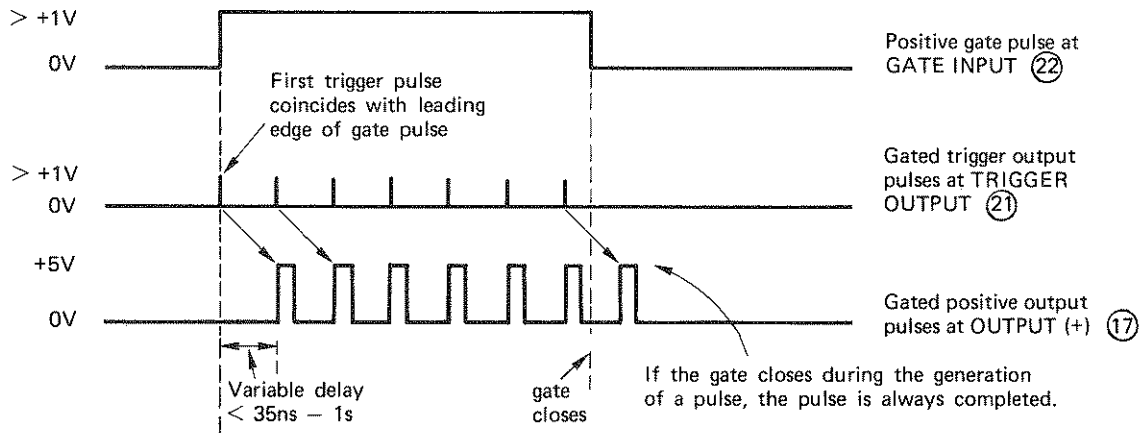

Figure 3-14. Output pulses in gate mode
3-37 The output pulses should appear at the TRIGGER OUTPUT (21) and OUTPUT (+) (17) connectors as shown in Figure 3-14.